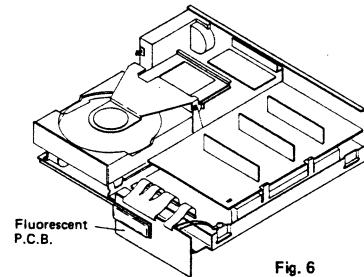

Fig. 6
6. Shift it as in Fig. 6 and check.